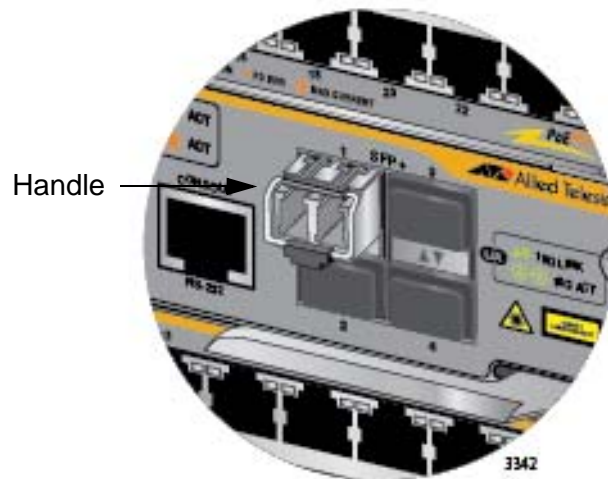

Figure 110. Positioning the Handle on the Transceiver
5. Verify the position of the handle on the transceiver. If the transceiver is in slot 1 or 3, the handle should be in the upright position, as shown in Figure 110. If the transceiver is in slot 2 or 4, the handle should be in the down position.